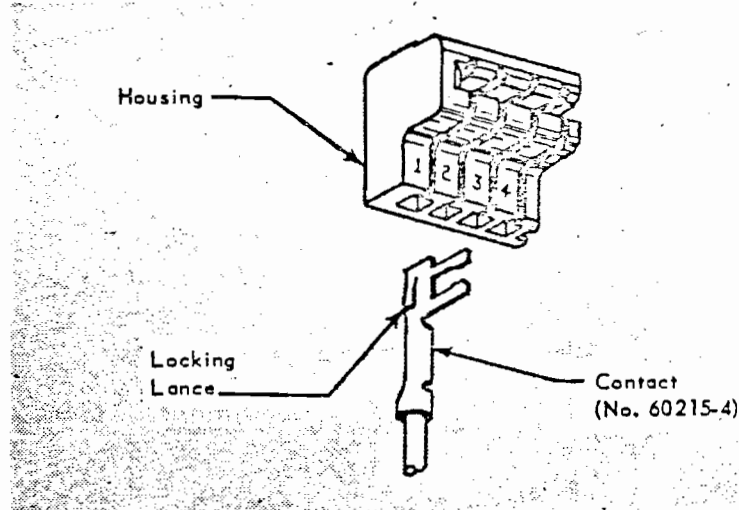

Fig. 1
2. Insert Contact (No. 60215-4) into bottom of Housing as far as it will go. See Figure 1. Pull back lightly on wire to make sure Contact is latched in place.